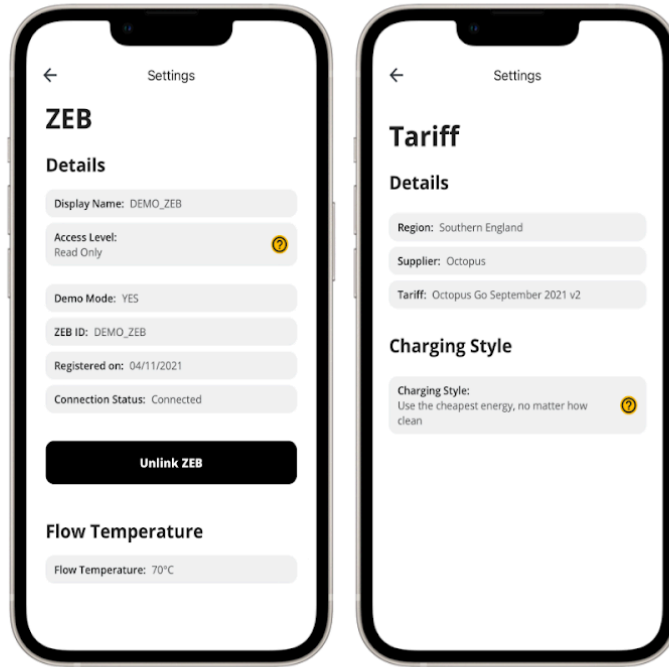

Figure 13: User App Account Settings
- Use the Account page in the menu to change any operational settings of the ZEB® (**Figure 13** - refer to user guide for full details) including